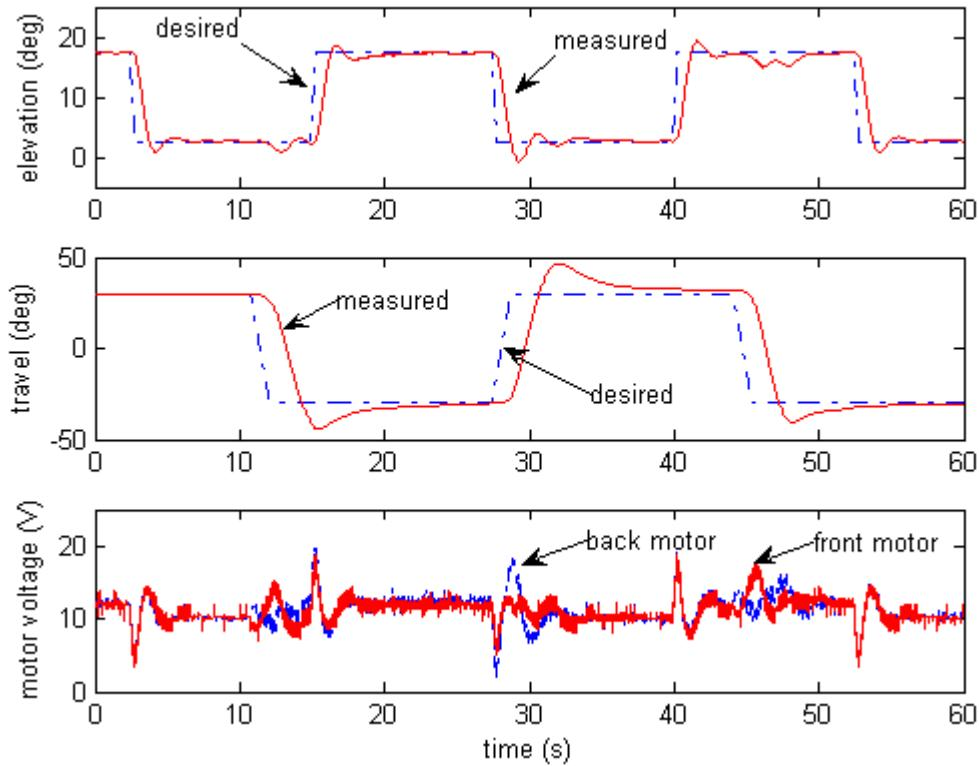

Figure 30: Typical closed-loop response of 3-DOF Helicopter system.
15. In the *Vm (V)* scope, the green line is the front motor voltage and the red trace is the back motor voltage. These should be within  $\pm 25V$  and not go negative very often.
16. Figure 30 below is a sample closed-loop position response of the 3-DOF Helicopter when commanding an elevation step of  $\pm 7.5$  degrees at 0.04 Hz and a travel step  $\pm 30$  degrees at 0.03 Hz.